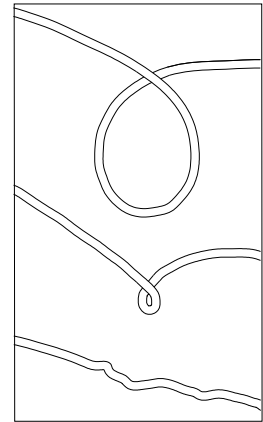

Figure 8
7. Prevent kinks before they occur. (see Figure 8).